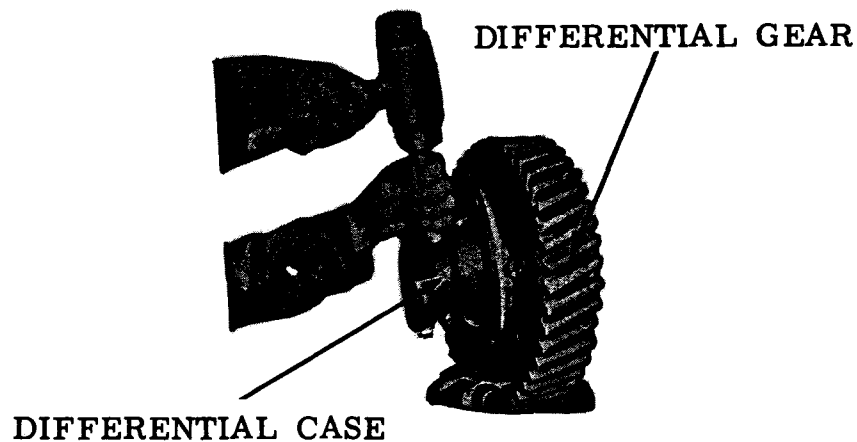

Figure 30. Removing differential case half.
e. Remove the cotter pins from the slotted nuts and bolts that attach the differential case to the differential gear. Remove bolts and nuts attaching differential case to differential gear (fig. 29). Separate the two halves of case from the gear (fig. 30) by tapping on the case with a hammer and brass drift.